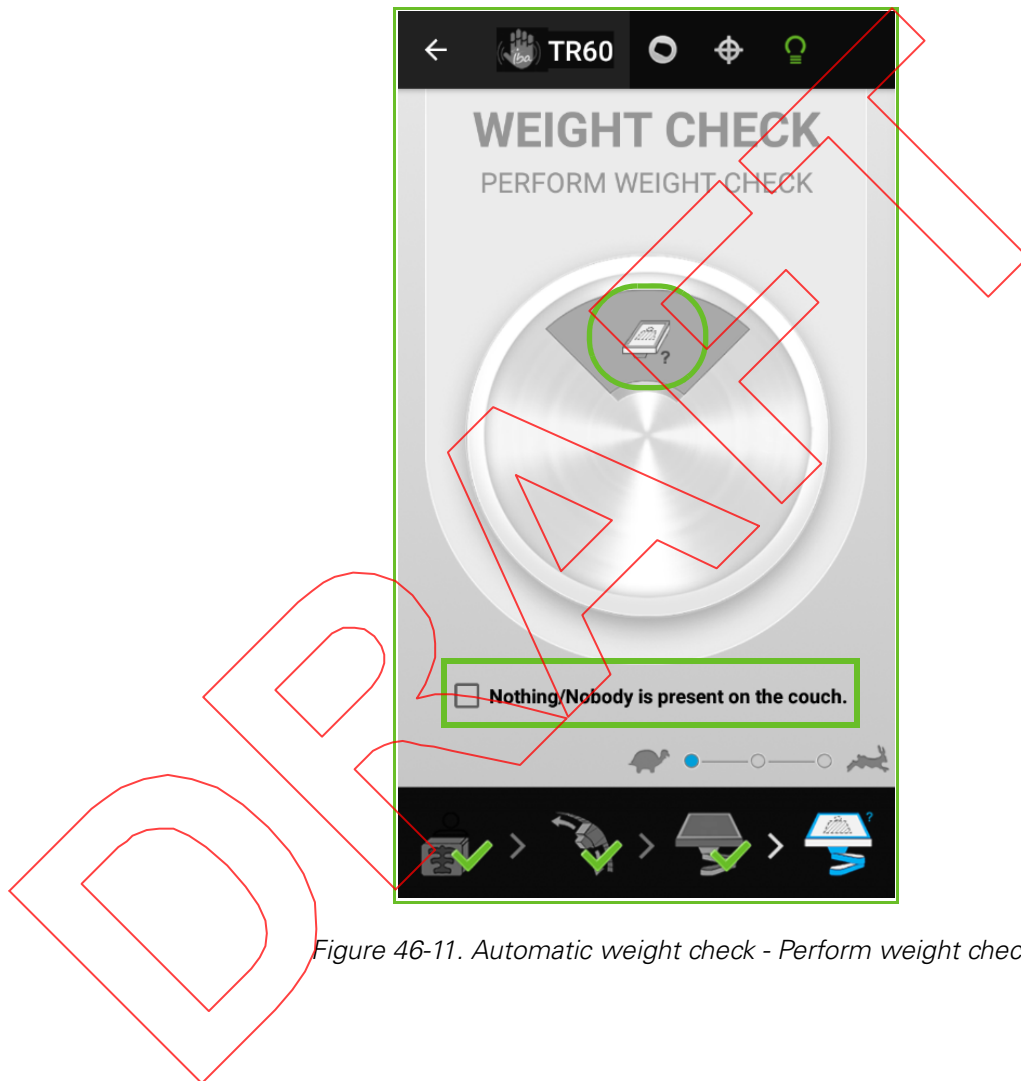

Figure 46-11. Automatic weight check - Perform weight check
4. Verify that there is no patient and no object on the couch. Then, check the box with the message Nothing/Nobody is present on the couch (green box in Figure 46-11).
5. Execute the automatic weight check by pressing the  icon (green circle in Figure 46-11).